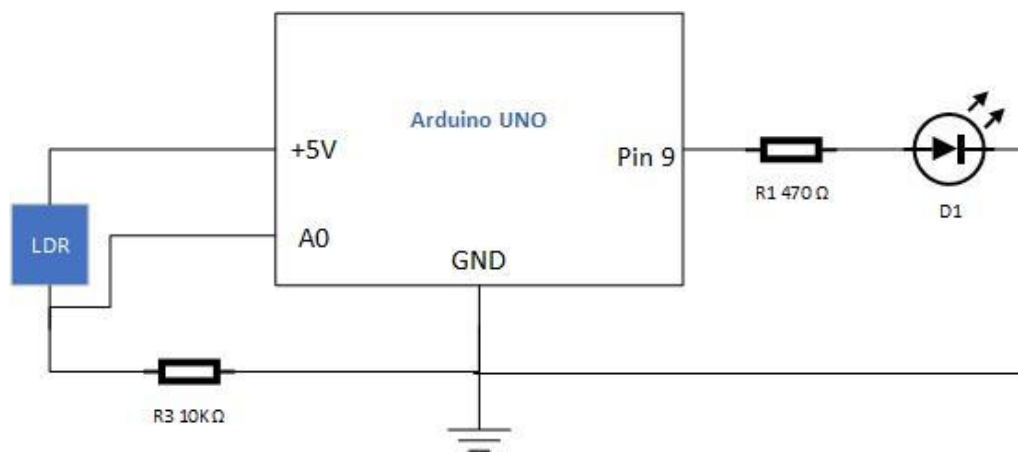

Fig 2: Schematic diagram of PWM control of LED brightness using LDR
7. Connect the circuit as shown in the Fig 2. LDR has two terminals